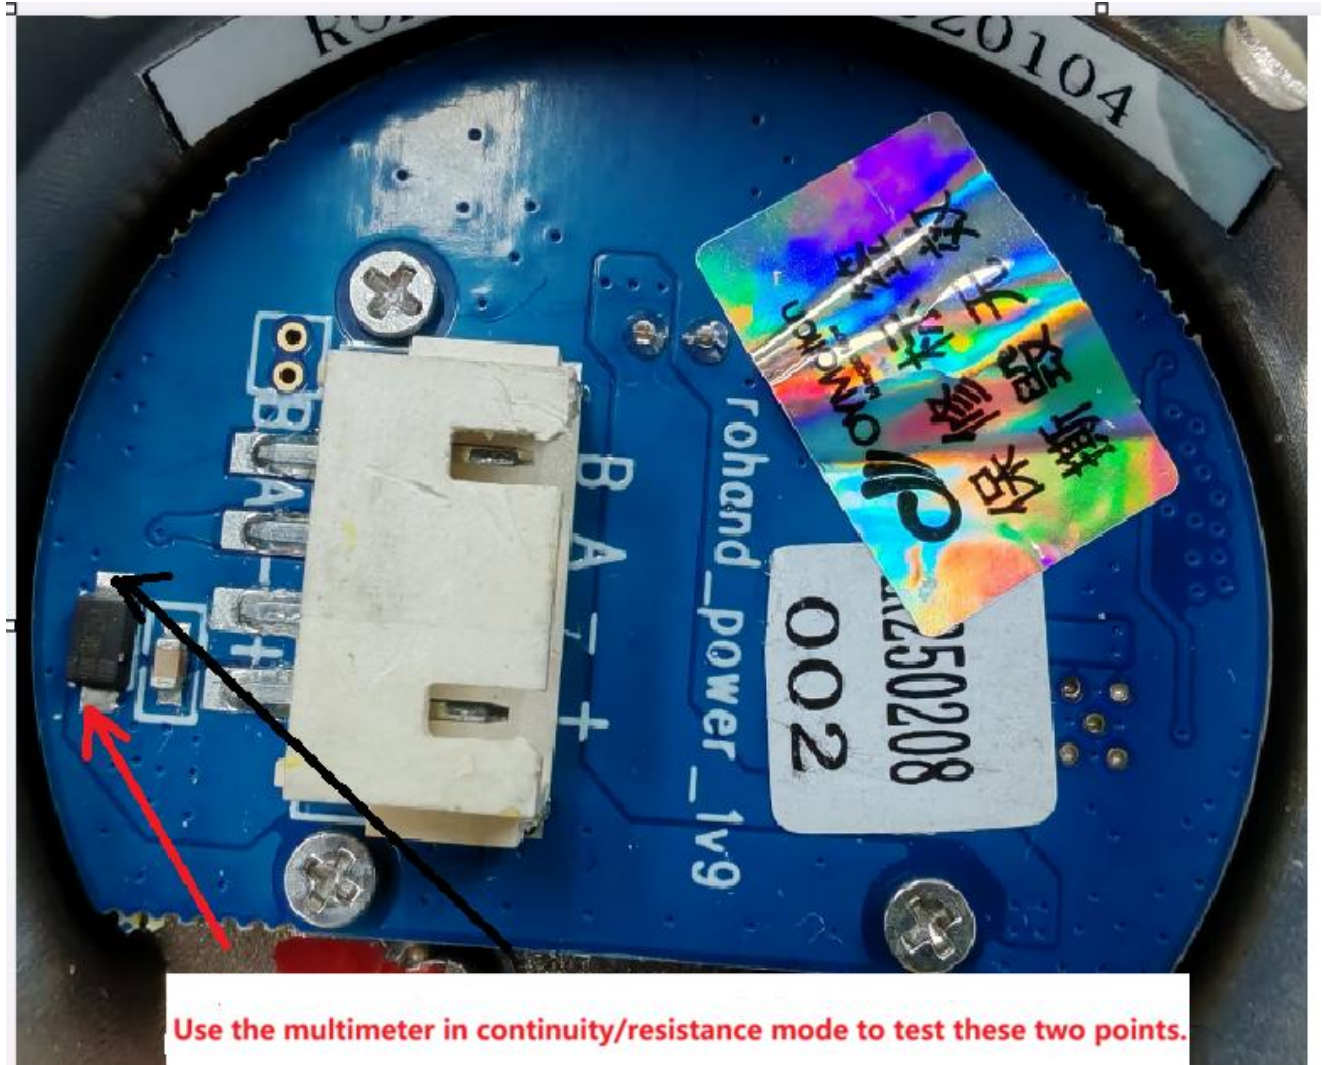

Figure 1
1. As shown in Figure 1, test at the TVS diode (input power) on the power board.